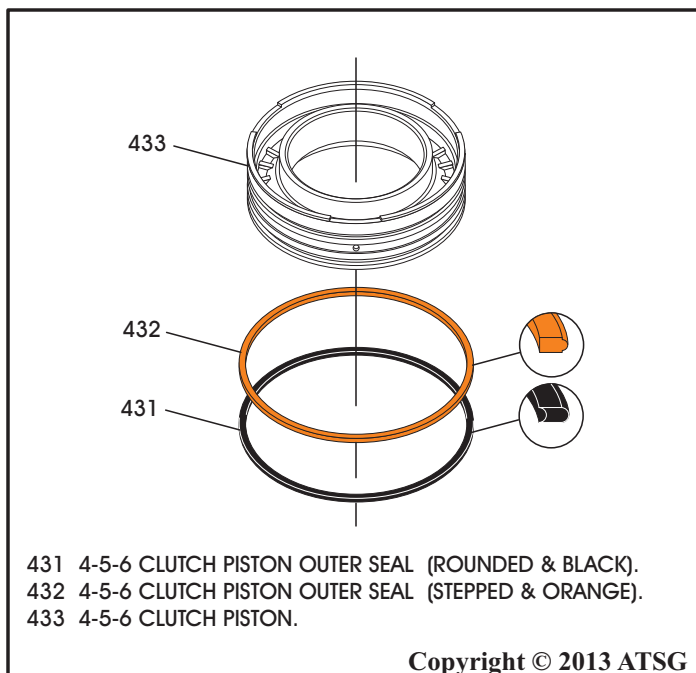

Figure 149
29. Install new 4-5-6 clutch piston outer seal into the upper groove, as shown in Figure 149.
**Note: This seal is "Stepped" and orange in color for identification, as shown in Figure 149.**
30. Install new 4-5-6 clutch piston outer seal into the lower groove, as shown in Figure 149.
**Note: This seal is "Rounded" and black in color for identification, as shown in Figure 149.**